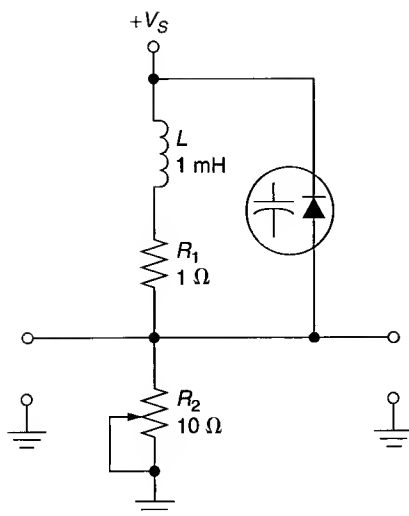

FIGURE 5.25
3. The varactor in Figure 5.25 has the following values: $C_i = 48$ pF at $V_R = 3$ V_{dc}, and $C_R = 4.8$ for $V_R = 3$ to 12 V_{dc}. Determine the resonant frequency for the circuit at $V_R = 3$ V_{dc} and $V_R = 12$ V_{dc}.